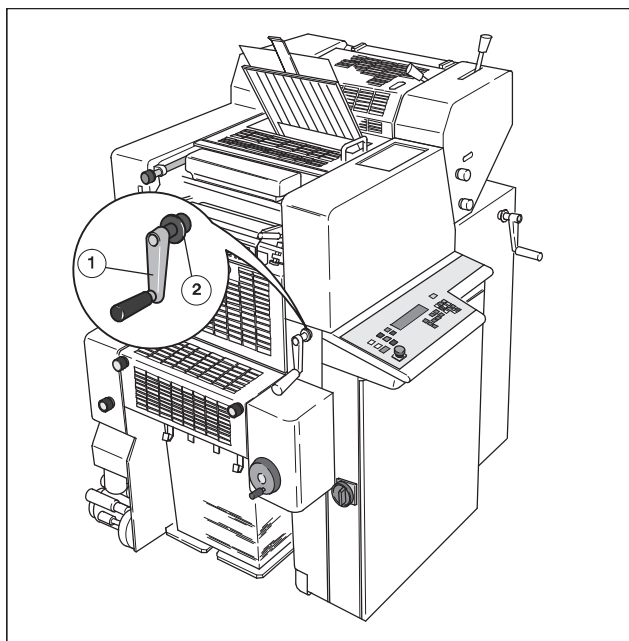

Fig. 1 Delivery pile on/off
The delivery pile is moved upwards/downwards at the delivery with the **crank handle** (Fig. 1/1). The speed is adjusted by moving the **bush** (Fig. 1/2).
Crank handle (Fig. 1/1)	Pile movement
Bush (Fig. 1/2)	Pile transport
2. Move up the empty pile carriage under the sheet joggers up to the stop with the crank handle (Fig. 1/1).